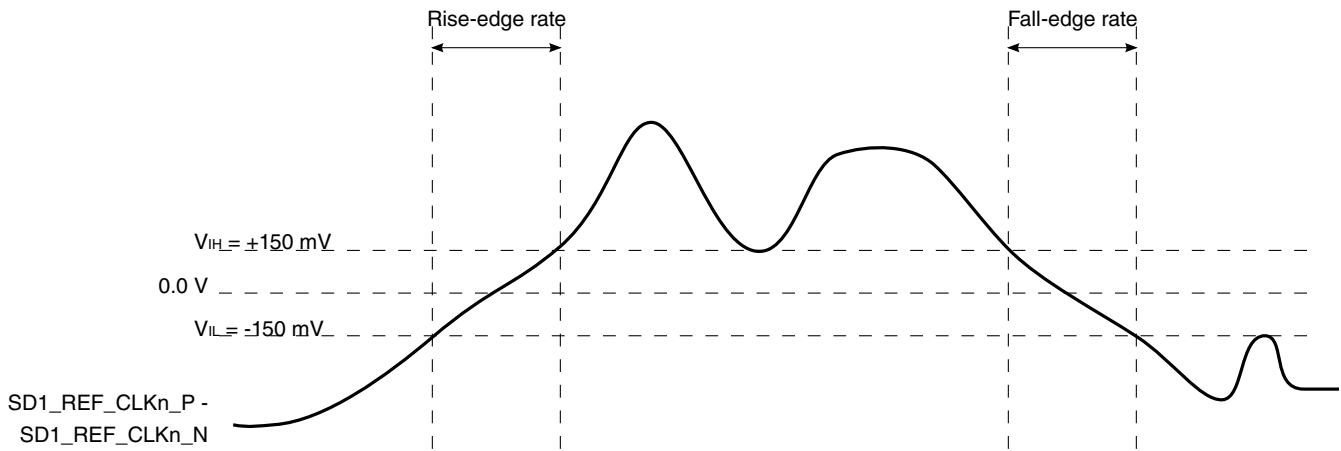

Figure 32. Differential measurement points for rise and fall time
within a differential pair. There is only one signal trace curve in a differential waveform. The voltage represented in the differential waveform is not referenced to ground. Refer to Figure 32 as an example for differential waveform.
- Measured from -150 mV to +150 mV on the differential waveform (derived from SD_n_REF_CLK_n_P minus SD_n_REF_CLK_n_N). The signal must be monotonic through the measurement region for rise and fall time. The 300 mV measurement window is centered on the differential zero crossing. See Figure 32.